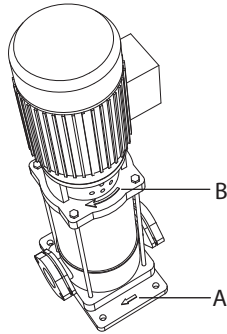

Figure 7: Indicators
Seen from the upper side of the motor, rotate the pump clockwise (B), see figure 7.